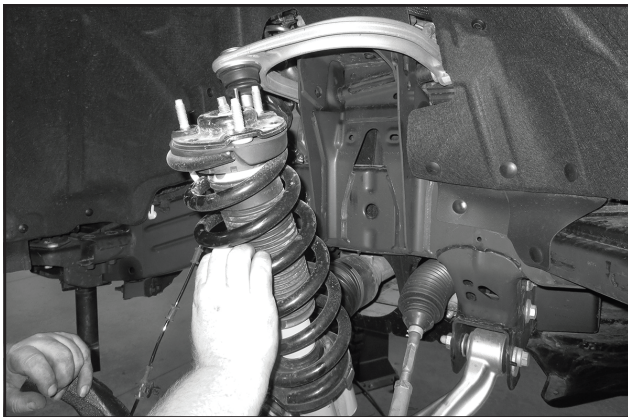

FIGURE 9 - STEP 9
9. Remove the three nuts attaching the coil over to the upper mount then remove the factory coil over by pushing down on the lower control arm. **(FIGURE 9).**